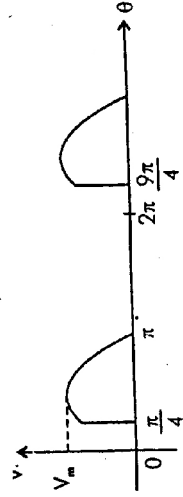

Fig. 2.8
8. Find average value and rms value of the waveform shown in Fig. 2.8.